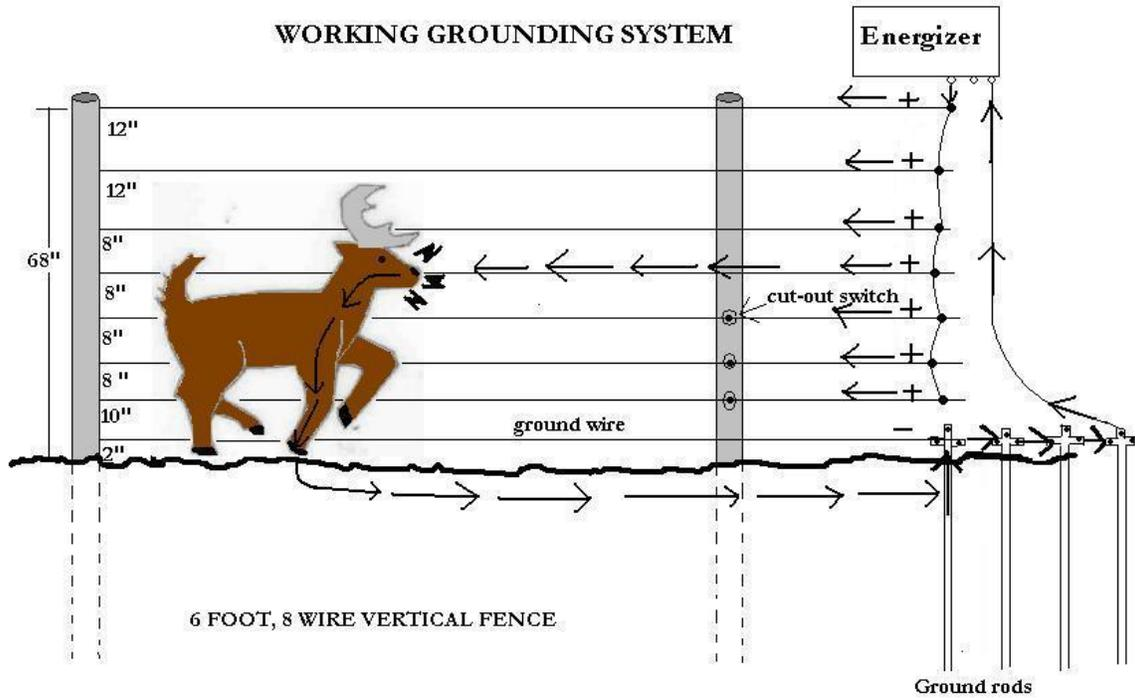

Figure 4. Grounding system
- Other wires spaced as follows: 20”, 28”, 36”, 44”, 56”, 68”. (See figure 4.)